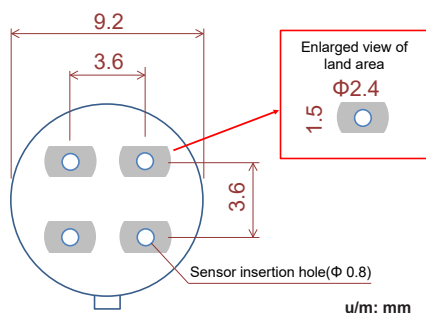

Fig. 9 - Recommended land pattern
The recommended land pattern of PWB for mounting a gas sensor is shown in Figure 9.
- c) It is best to design a land pattern so that a sensor can easily be mounted on. The land pattern shown in Figure 9 is a recommended example only.